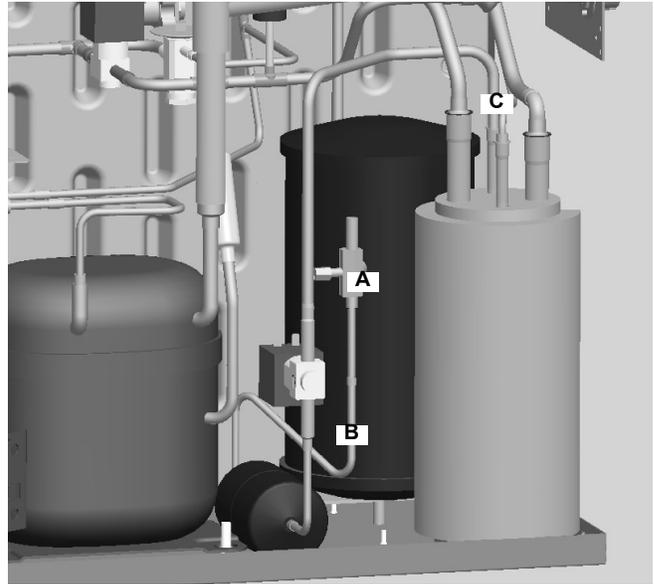

Figure 31.
33. Attach the nitrogen feed (8-10 psig) to the receiver service port (A).
- Braze the Liquid Line to the receiver outlet (B).
- Braze the Liquid Line to the accumulator inlet (C) (Figure 31).